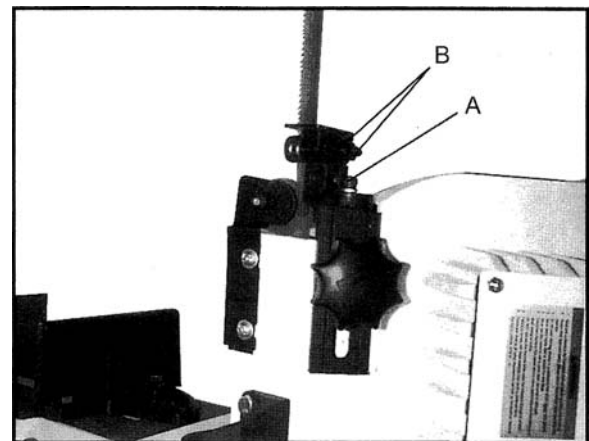
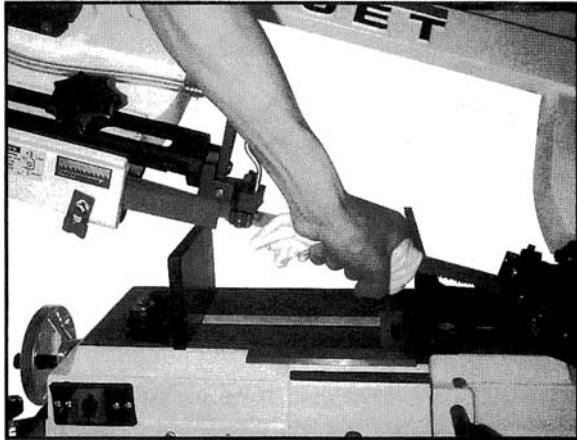

Figure 19
Figure 20
3. Loosen hex cap screw (A, Figure 19) and adjust assembly so that the back roller bearing is approximately 0.003" to 0.005" from the back of the blade.
4. Turn nut (B, Figure 19) to adjust the eccentric bearing snug to the blade. Blade should still move up and down freely when grasped as in Figure 20. **Warning! Make sure power is disconnected and hands are protected before handling blade.** Be sure that the blade teeth do not interfere with the roller bearings.